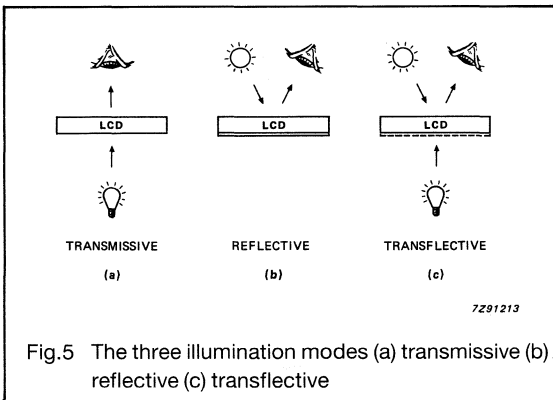

Fig.5 The three illumination modes (a) transmissive (b) reflective (c) transflective
- **reflective mode**; the LCD is covered by a diffuse metallic reflector, such as brushed aluminium foil, that reflects ambient light back through the display; this mode is best suited for positive image displays and applications with sufficient ambient light; reflective mode is especially suited to battery operated displays as no lighting power is required (Fig. 5(b))
- **transmissive mode**; the display is lit from behind; negative image displays are best suited to this mode; their appearance is similar to active displays such as Light Emitting Diodes (LEDs), Vacuum Fluorescent Displays (VFDs) etc; this type of display can be projected like a slide (Fig. 5(a))
- **transflective mode**; a combination of transmissive and reflective modes; the display is backed by a partly transmissive reflector (transflector) which reflects ambient light as well as transmitting diffused back-lighting for night use (Fig. 5(c))